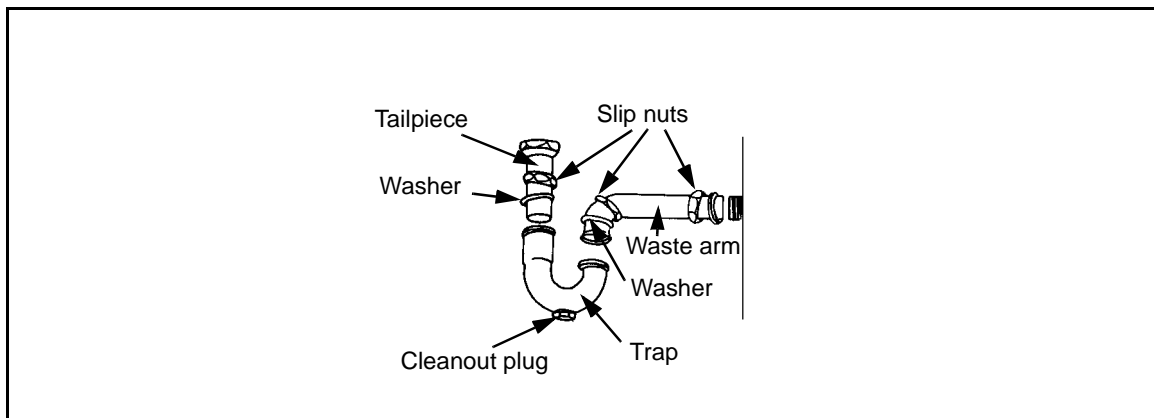

Figure 4-14. P-Trap Connection
Step 4. Connect the P-trap between the rough-in waste outlet and the tailpiece (*Figure 4-14*). All connections should be made with washers and slip nuts to form leakproof joints.